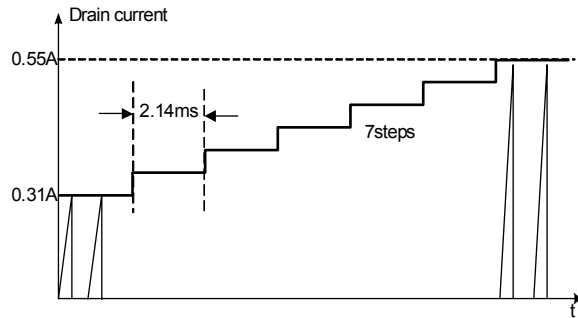

Figure 19. Internal Soft-Start
5. Soft-Start: The FPS has an internal soft-start circuit that slowly increases the feedback voltage, together with the SenseFET current, right after it starts. The typical soft-start time is 15ms, as shown in Figure 19, where progressive increment of the SenseFET current is allowed during the start-up phase. Soft-start circuit progressively increases current limits to establish proper working conditions for transformers, inductors, capacitors, and switching devices. It also helps to prevent transformer saturation and reduces the stress on the secondary diode.